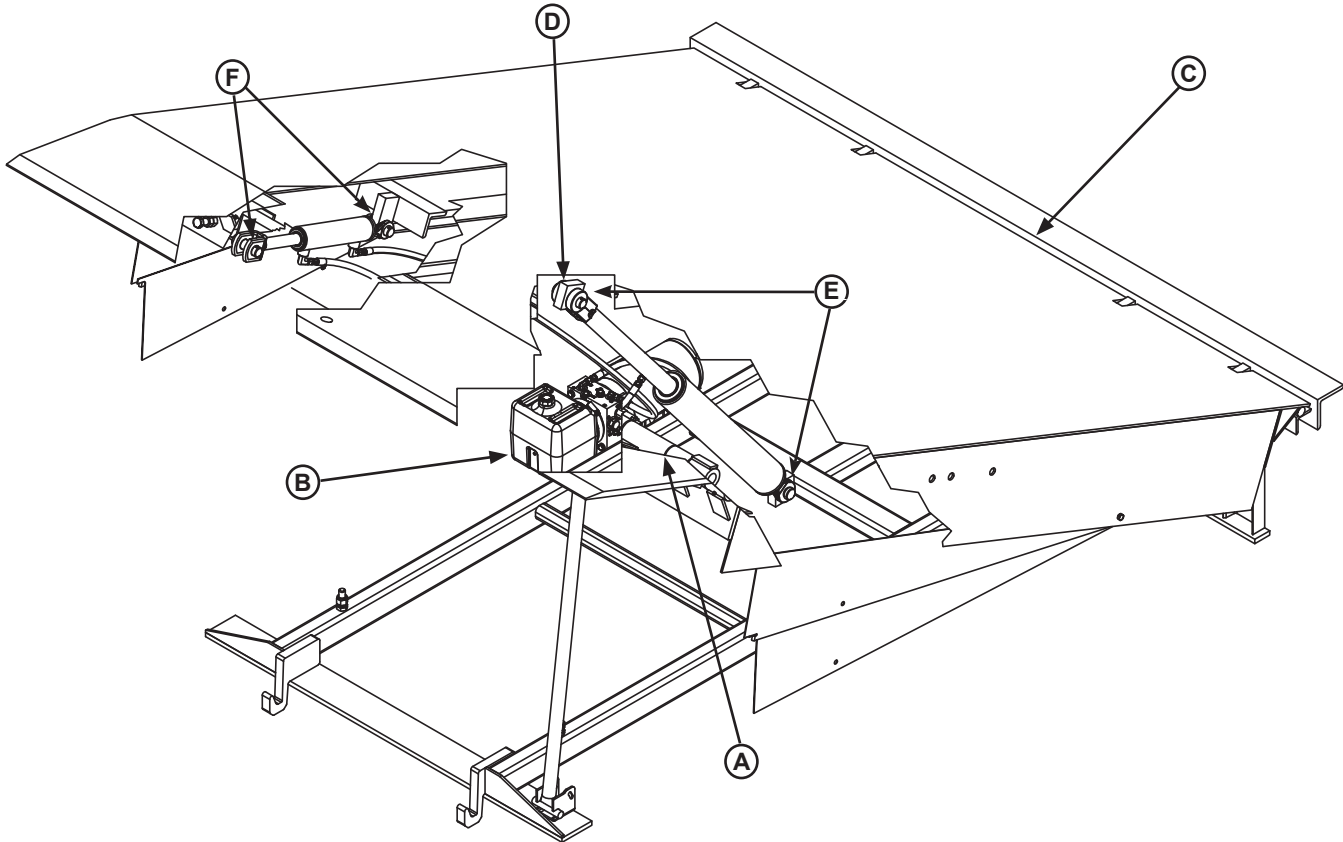

Figure 25
- Lubricate the following areas with light weight machine oil (see Figure 25):
- (A) — Lip hinge area unless equipped with grease fittings (apply oil to the top of the entire length of lip hinge when platform is at the full below-dock position and lip is folded)
- (C) — Platform hinge area (apply oil to top of all platform hinges when platform is at the full below-dock position)
- (E) — Platform cylinder-to-platform frame pin
- (F) — Lip cylinder-to-platform frame pin